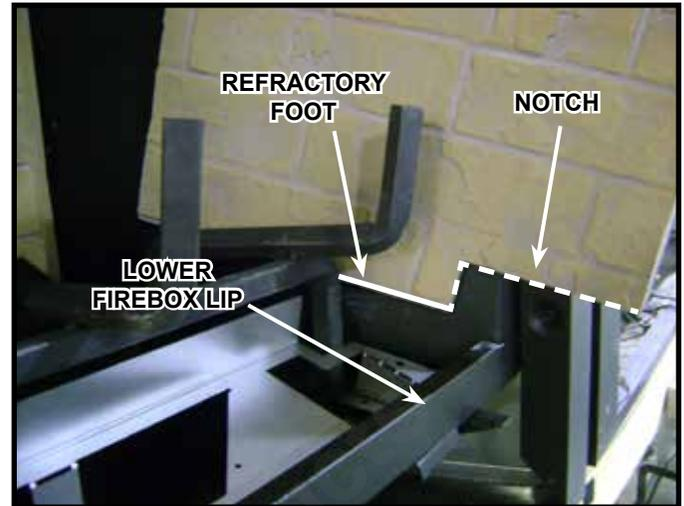
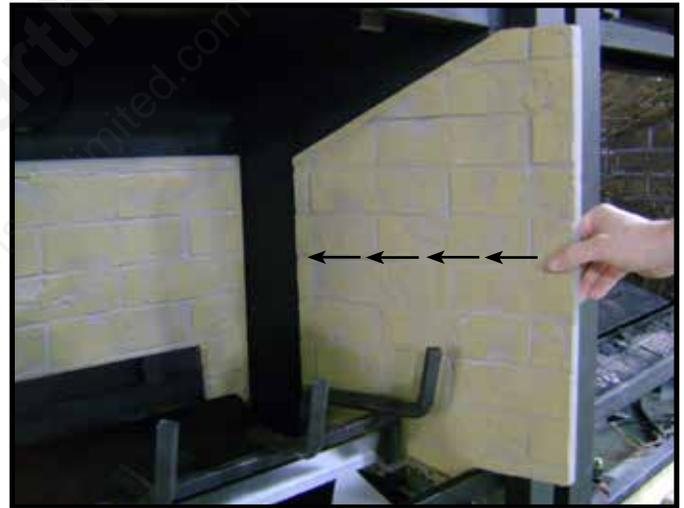
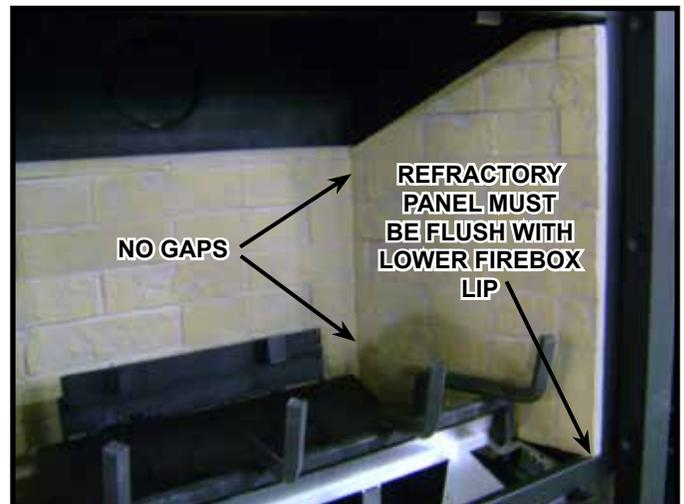
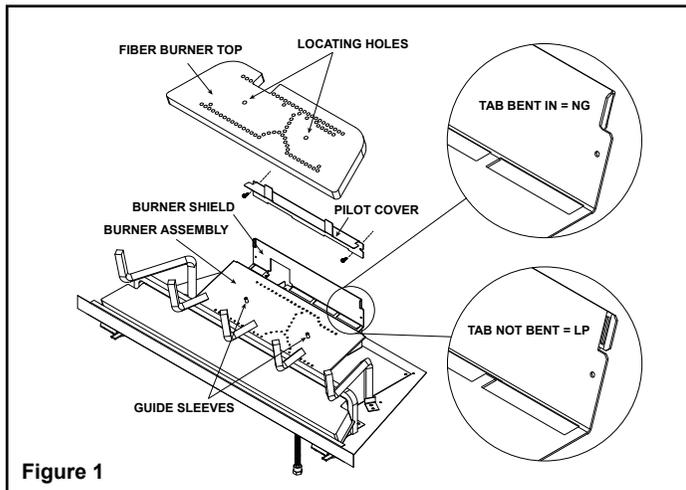

Figure 3
Figure 4
Figure 5
Figure 2. Firebox Shown with Optional Refractory
3. Place the right refractory panel against the right side-wall of the firebox. Rest the rectangular notch located on the bottom of the right refractory panel over the lower firebox lip. Let refractory foot rest on firebox after panel's notch has been mated with firebox lip. See Figure 3.
4. Slide the right refractory panel completely into the firebox until it securely rests against back refractory panel. Make sure that right refractory panel makes full contact with the right sidewall of the firebox. See Figure 4.
CAUTION: Logs are fragile, handle with care. **Log #1 (SRV2164-701):** Locate log placement tabs on the pilot cover. Bend tabs upward as shown in Figure 2. Locate the log placements slots on the bottom of Log #1 (see Figure 3). Mate the slots located on the bottom of Log #1 with the log placement tabs on the pilot cover. Log #1 is properly installed when it sits squarely and completely on pilot cover with tabs engaged (see Figure 4).
Figure 4 shows the log placement tabs located on the top of Log #1. The tabs will be mated with the slots located on the bottom of Log #2 and Log #3 (see Figure 5). Log #2 and Log #3 also have grooves that allow the logs to be seated properly on the grate (see Figure 5). Hold Log #1 upright while placing Log #2.
Log #4 (SRV2164-704): Place Log #4 in the left log indentation on the burner top (see Figure 2). Slide Log # 4 from right to left under Log #2 to fit completely and securely into the indentation (see Figure 8). Nose of log #4 should be pulled to fit securely against right hand side of log indentation.
Log #5 (SRV2164-705): Place Log #5 in the right log indentation on the burner top (see Figure 2). Ensure the log fits completely and securely in the recessed indentation (see Figure 9). Log #5 should be pulled to the left hand side of log indentation.
CAUTION: LOGS ARE FRAGILE, HANDLE WITH CARE. **Log #1 (SRV2168-701):** Locate log placement tabs on the pilot cover. Bend tabs upward as shown in Figure 2. Locate the log placements slots on the bottom of Log #1 (see Figure 3). Mate the slots located on the bottom of Log #1 with the log placement tabs on the pilot cover. Log #1 is properly installed when it sits squarely and completely on pilot cover with tabs engaged. See Figure 4.
Log #4 (SRV2168-704): Place Log #4 in the left log indentation on the burner top (see Figure 2). Slide Log #4 from right to left under Log #2 to fit completely and securely into the indentation (see Figure 8). The back or Log #4 should rest against the far left grate tine as well as contact Log #2.
Log #5 (SRV2168-705): Place Log #5 in the right log indentation on the burner top (see Figure 2). Ensure the log fits completely and securely in the indentation (see Figure 9). Log #5 should be pulled to the left hand side of log indentation.